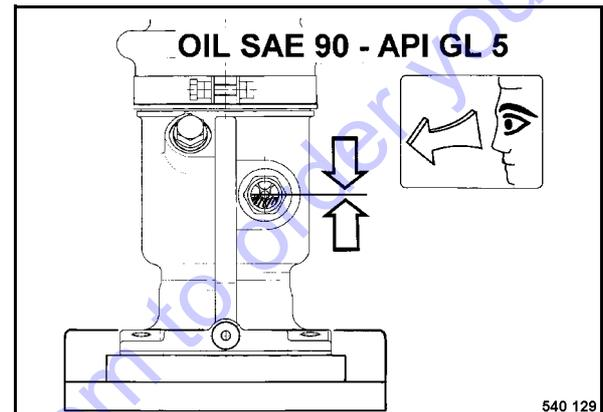

Fig. 45
- Clean the sight glass (Fig. 45).